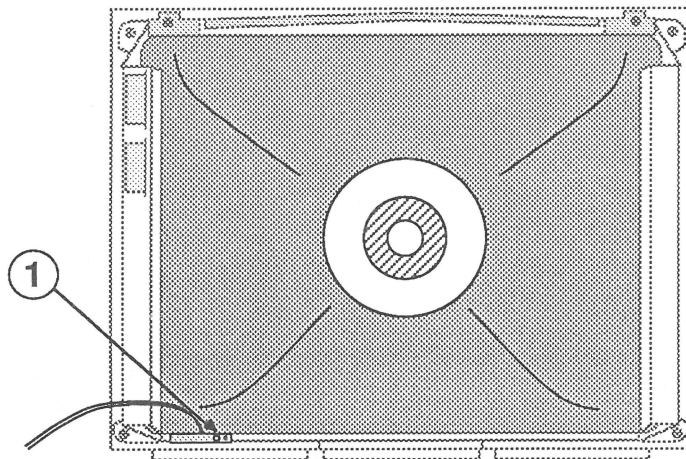

FIGURE 41
7. Remove the screw (Figure 41, #1) that secures the LED assembly to the front bezel. Lift out the LED.
1. Install the LED assembly in its place in the front bezel and replace the screw (Figure 41, #1). Be sure to line up the holes on the LED board with the guide tabs provided on the bezel.